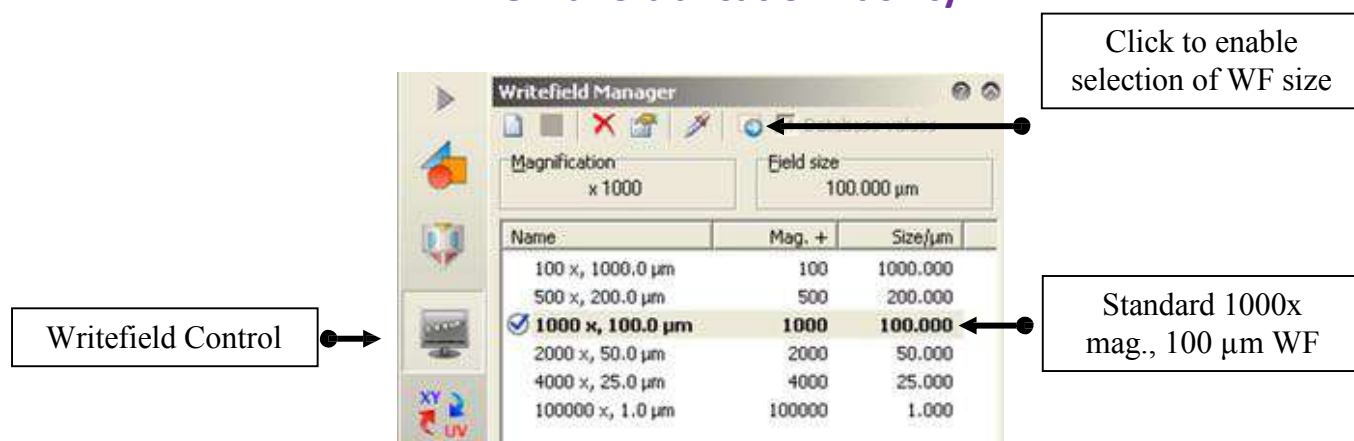

Figure 22 Writefield Manager tab in Writefield Control menu in the Raith window
19. Select a particle or a contamination dot of interest to perform writefield (WF) alignments. Centre the SEM crosshairs on the object and select the magnification and WF size as shown in Fig. 22.